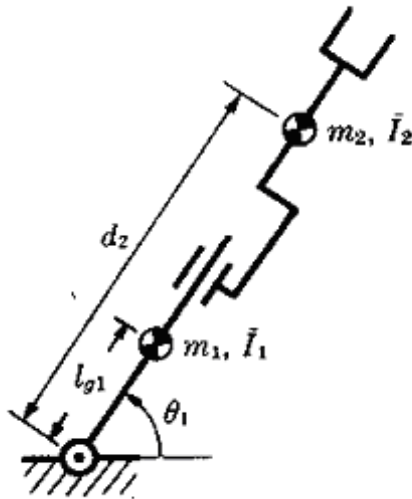

Figure 5
5. Derive the equations of motion for the two link manipulator in figure 5 using the Lagrangian formulation. Let l_{g1} be the distance between joint 1 and the center of mass of link 1, let m_i be the mass of link i , and let $\tilde{I}_i$ be the moment of inertia about the center of mass of link i . Assume that gravity acts vertically downward. [16]